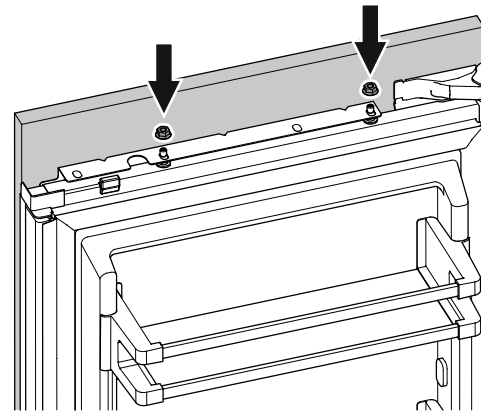

Figure 29
8. Open the refrigerator door and hang the panel on the adjusting bolts (**Figure 29**).
9. Screw on the hex nuts to the adjusting bolts and finger tighten temporarily (**Figure 29**).